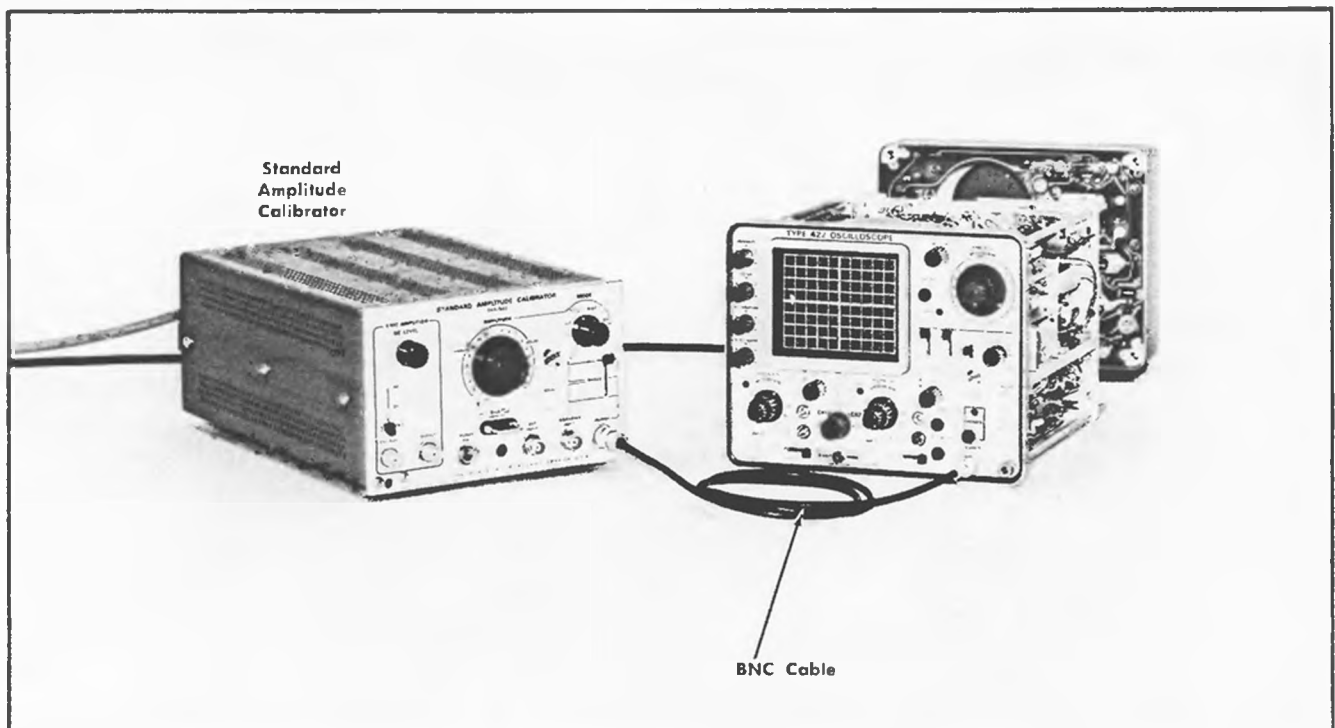

Fig. 6-51. Initial test equipment setup for steps 48 and 49.
- Test equipment setup is shown in Fig. 6-51.